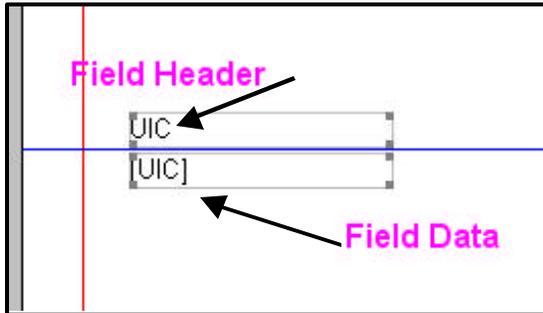

Figure 14.
Step 3: To place a field, click and hold on the field name and drag it to a report section. Two boxes will appear. (see Figure 14.) The top box is the field header and the bottom box contains the data for the field.